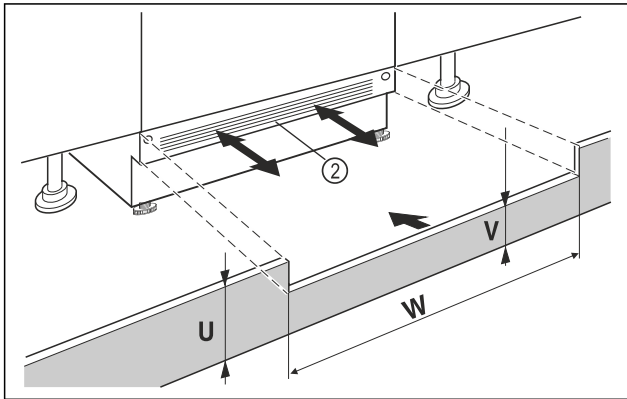

Fig. 39 Example illustration
- ▶ Put on the appliance base cover Fig. 39 (2) but do not fix it in place yet.
- ▶ If the base panel is visible Fig. 39 (2), pull it forwards so that the front edge of the ventilation grille and the unit base panel are level.
- ▶ If the base panel is concealed Fig. 39 (2), push it all the way back.
- ▶ Ensure that the ventilation slots are completely free: If necessary, cut the height of the unit base panel Fig. 39 (U) to size!
- ▶ Adjust the web height Fig. 39 (V) under the appliance base panel Fig. 39 (2) along the niche width Fig. 39 (W).